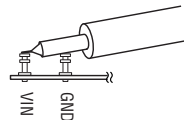

Figure 2. Measuring Input or output Ripple
**NOTE.** When measuring the input or output voltage ripple, care must be taken to avoid a long ground lead on the oscilloscope probe. Measure the input or output voltage ripple by touching the probe tip directly across the VIN or VOUT and GND terminals. See Figure 2 for proper scope probe technique.